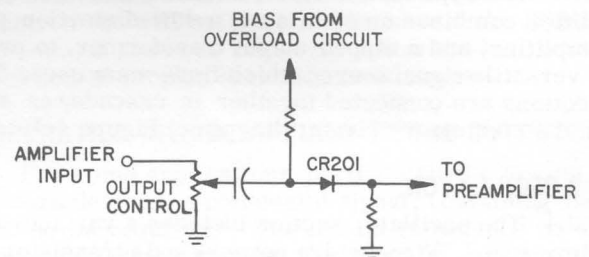

Figure 4-3. Diode gate circuit.
4.3.2 DIODE GATE CIRCUIT. See Figure 4-3. Diode CR201 connects the input signal to the AMP INPUT terminal. When it is forward-biased by signals from the overload circuit, it has negligible impedance. When it is back-biased, it is essentially an open circuit, which prevents signal current from flowing to the output.